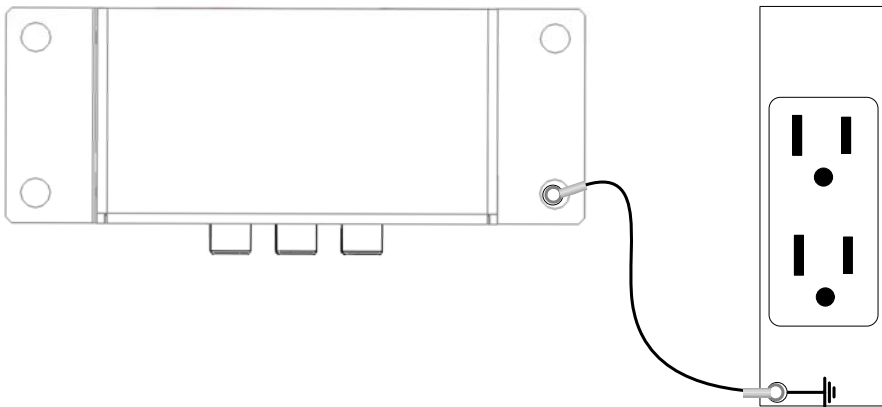

Figure 1 – Additional ground connection
- 1) If the display has no ground connection (only has a two wire AC plug), then connect the Hornet's mounting bracket to the AC outlet as shown in Figure 1.